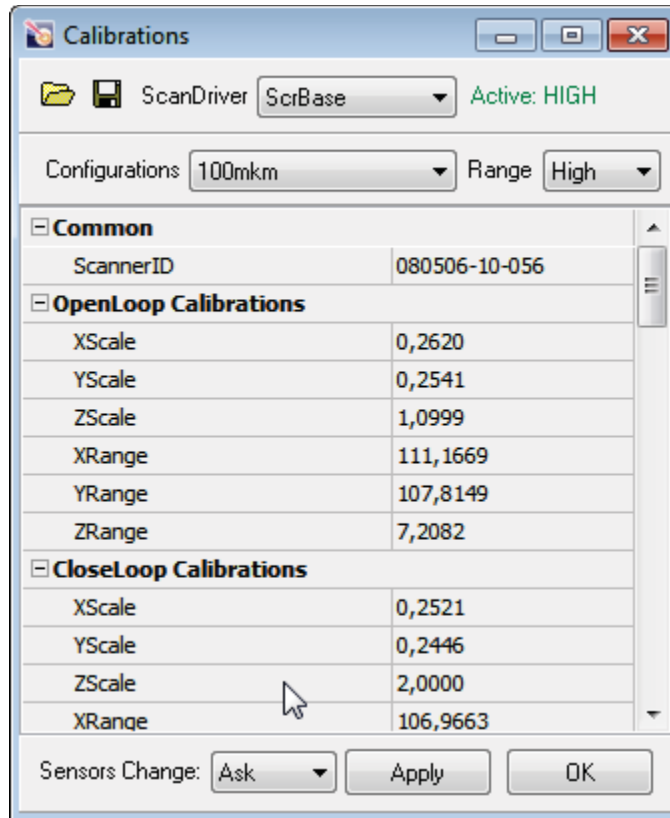

Fig. 1-24. Calibrations dialog
1. Select the **Tools → Calibrations** menu command. This will open the **Calibrations** dialog (Fig. 1-24).